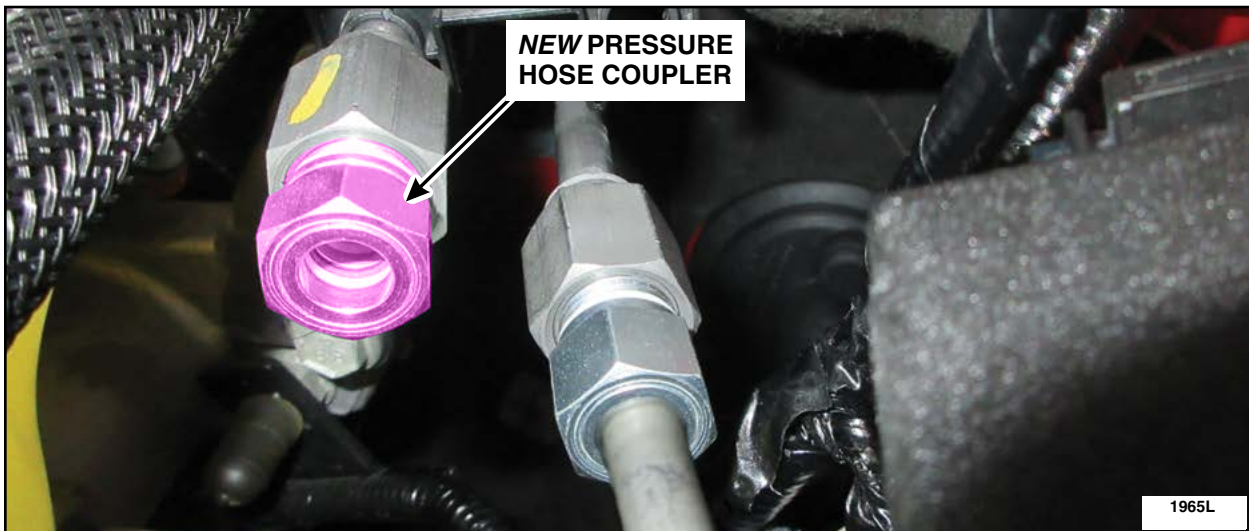

FIGURE 13
7. Install the *new* pressure hose coupler into the Hydro-Boost junction. See Figure 13.